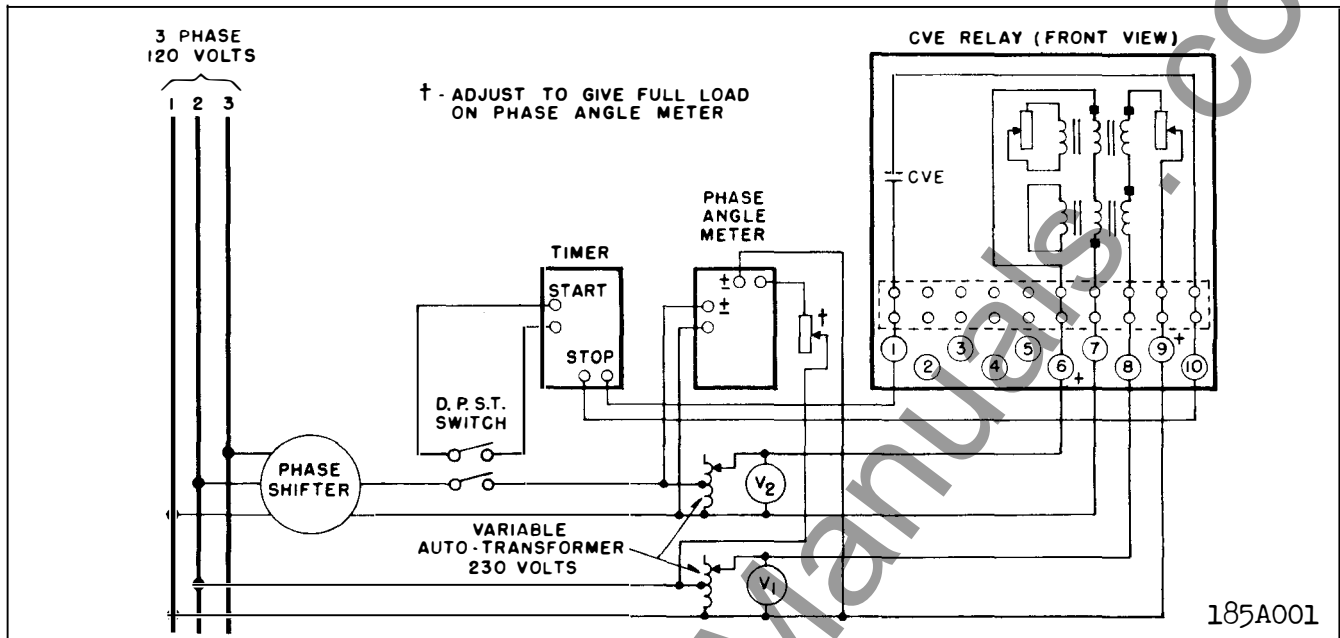

Fig. 12 Diagram of CVE Test Connections.
2. Operating Circle – Connect the relay per the test diagram of Fig. 12. The contacts should just close under the following two conditions:
3. Spurious Torque Adjustments — With the relay set as per the preliminary adjustments, open the lag coil circuit of the rear electromagnet. This can be done by opening the screw connection on the lag coil of the rear electromagnet or by inserting a piece of insulating material under the adjustable point of the left hand resistor (front view). Connect the relay to test circuit of Fig. 12 and apply rated voltage at zero phase angle on both circuits. With the right hand plug all the way in, adjust the left hand plug of the rear electromagnet such that the disc does not move from the number 11 time dial position. This can be determined by no movement of the disc when the time dial is moved beyond the number 11 position.
With V_1 in Fig. 12 equal to rated voltage the following approximate voltages should be obtained across the coils of the 120 volt relay. Relay set for 20 degree circle.